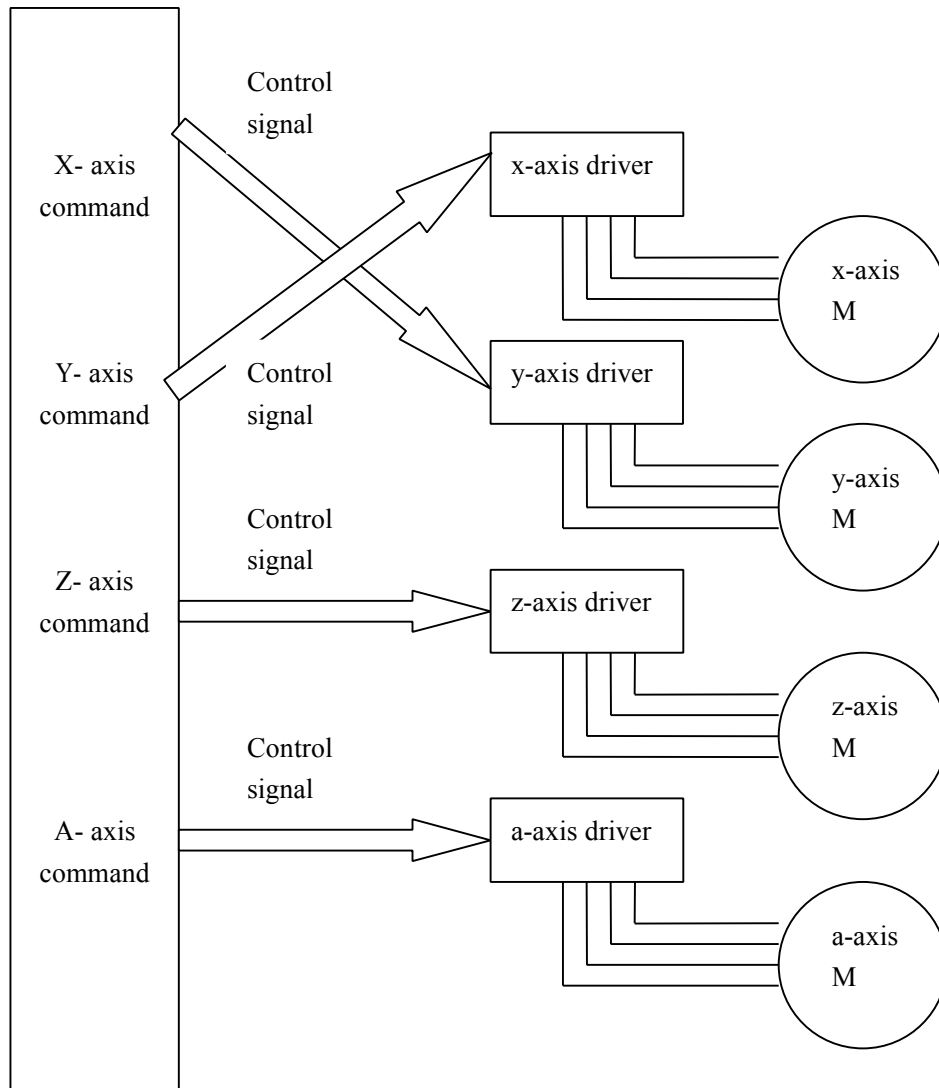

Figure 6-5
2. do as <a href="#">Figure 6-5</a> to check the cable of control signal.	2 .if the cable is broken, replace it